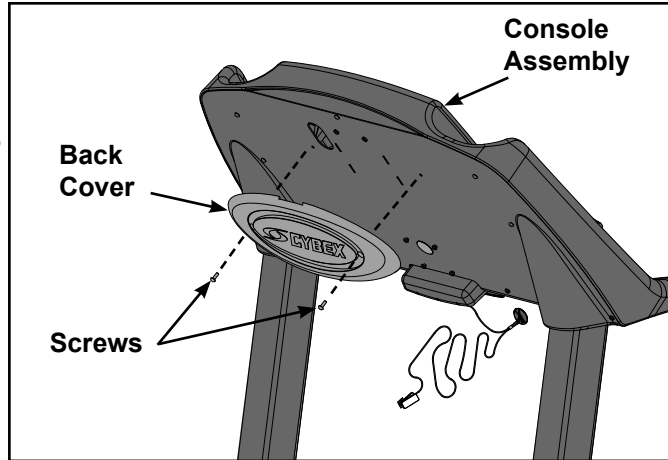

Figure 9
- E. While being sure not to pinch any cables, use a Phillips head screwdriver to secure the seven screws 8-16 x .50" (#14) that hold the console assembly (#2) to the console back (#4). See Figure 9.
- F. Using a Phillips head screwdriver secure the two screws (#13) securing the console assembly (#2) to the upright assembly (#3). See Figure 9.